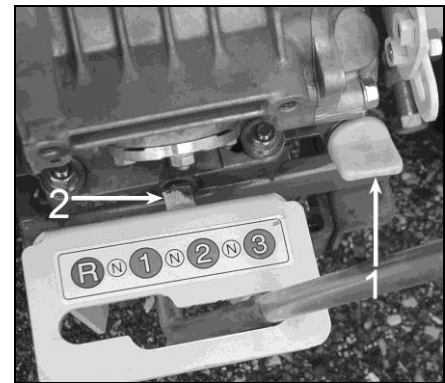

Figure 13
•Refer to engine manual. With the engine cold or stopped at least since 10 minutes on a plate level place. Check level with the oil filter cap (1, Figure 13). Unscrew the plug, wipe it and install without screwing it. Check the level that must be between the two marks.
Remove oil drain plug (2, Figure13) in case of changing oil.